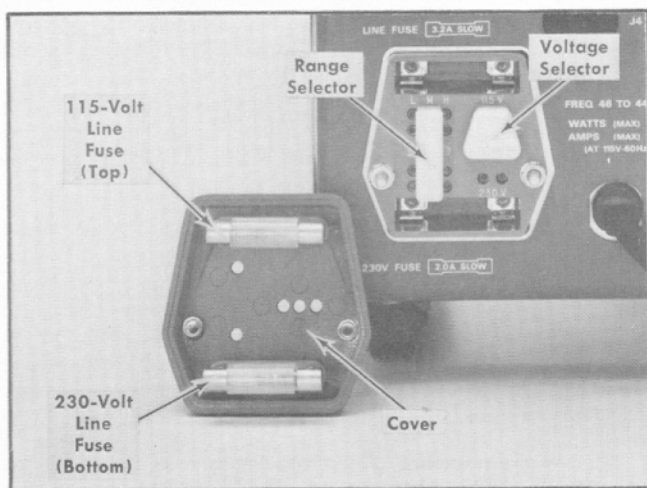

Fig. 2-1. Line Voltage Selector assembly on the rear panel (shown with cover removed).
Fig. 2-1); turn it around 180 degrees and plug it back into the remaining holes. Change the line-cord power plug to match the power source receptacle or use a 115- to 230-volt adapter.
4. To change regulating ranges, pull out the Range Selector switch bar (see Fig. 2-1); slide it to the desired position and plug it back in. Select a range which is centered about the average line voltage to which the instrument is to be connected (see Table 2-1).